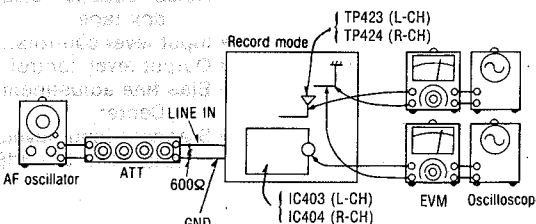

Fig. 22
1. Make connections as shown in fig. 22.